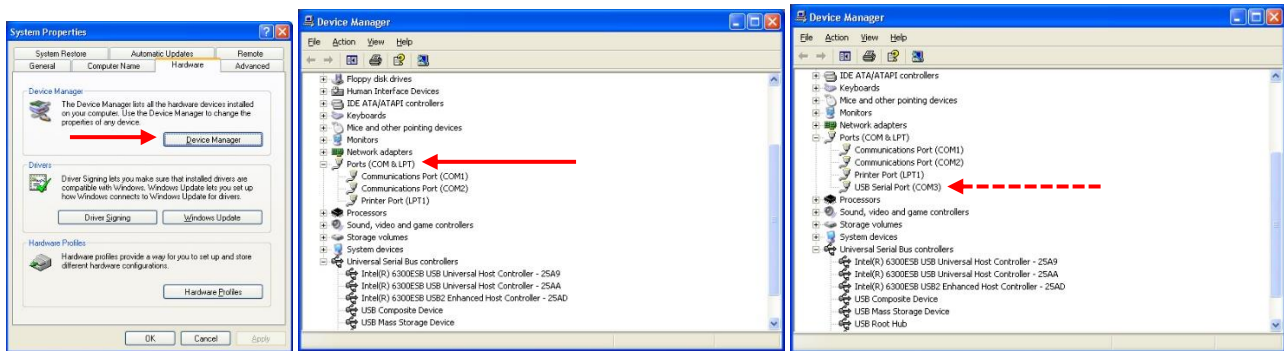

Figure 5-3 Example Device Manager Screens
6. Identify the computer port that has been added to the PC by using the “Properties” of My Computer and examining the COM ports. USB ports are generally added to the bottom of the list and named USB COM port ‘x’. Refer to Figure 5-3 for screen examples (Windows XP).